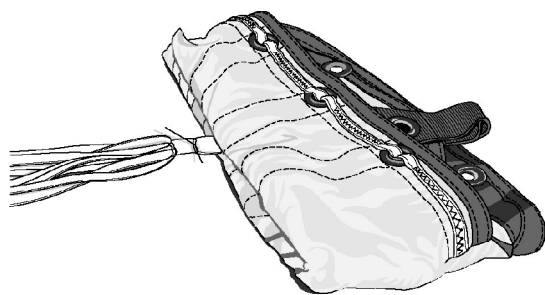

Figure 4. Deployment Bag Position
a. Position deployment bag so locking loops are facing up and stowage flutes on deployment bag are down on table surface. Turn deployment bag inside out (Figure 4). (QA)